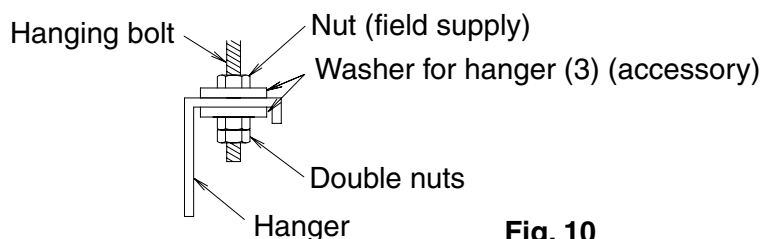

Fig. 10
- (1) Fix the hanger to the hanging bolt. **(Refer to Fig. 10)**